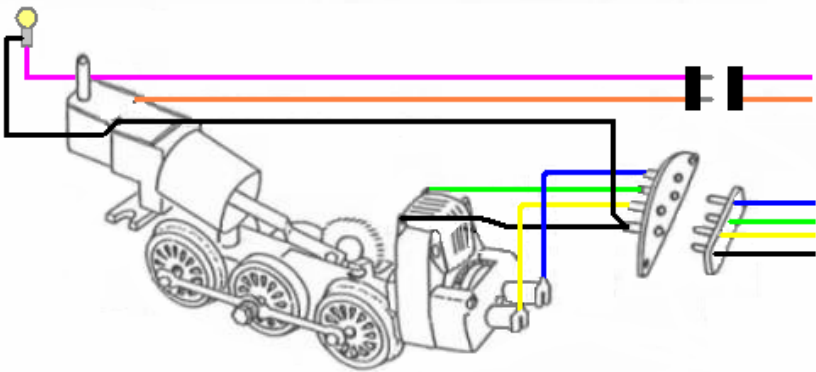

Figure 7 – Locomotive Tether Connections
3. Examine the locomotive connector to determine how each of the four individual wires connect to the motor through the tether. Refer to figure 7 for clarification.
Figure 7 illustrates the connections to the headlamp and smoke unit from the Motor Mite located in the tender. Note that the common connections to the headlamp and smoke unit are made through the motor circuit. Therefore, only the hot (RED) connection from J4 and J7 is needed.
5. Referring to figure 7, attach the common wire from the smoke unit and headlight to the locomotive connector that mates with the BLK Motor Mite wire.